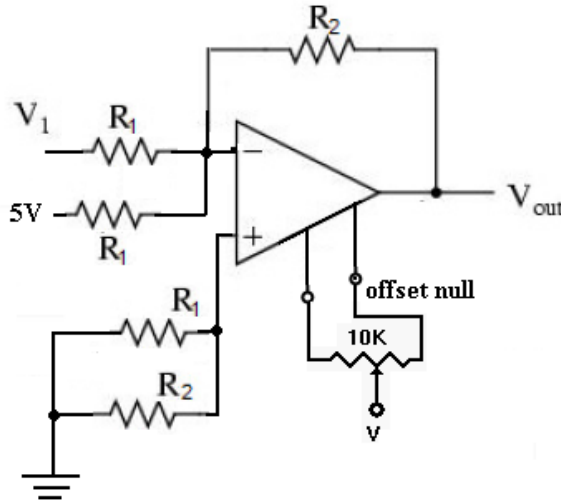

Figure 7.5
1. Implement the circuit shown in figure 7.5.